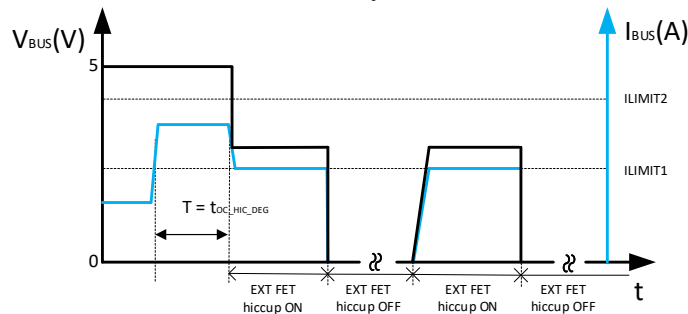

图 10-19. Two Level Current Limit Methodology with ext MOSFET Case 2
- Case 2: If the load current  $I_{BUS}$  is in the range  $I_{LIMIT2} > I_{BUS} > I_{LIMIT1}$  and the duration  $> t_{OC\_HIC\_DEG}$ , the external MOSFET will current limit to  $I_{LIMIT1}$ , then enter hiccup mode with 2 ms of on-time and 263 ms of off-time, as shown in 图 10-19. When the load current decreases below  $I_{LIMIT1}$  and continues  $> t_{OC\_HIC\_RST}$ , the external MOSFET will resume always on.